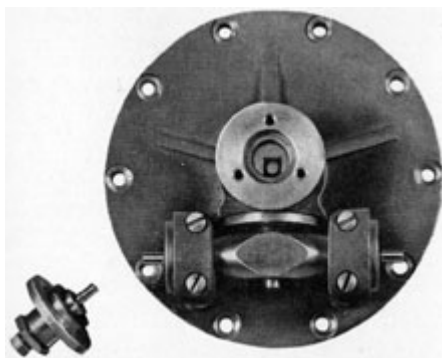

Figure 5-38. Bellows housing cover with housing end cap and stop rod removed, new installation.
**5K15. Disassembly of housing cover.** (See Figure 5-38.) Remove the shoulder screw that secures the shaft seal bellows to the contact lever shaft. Detach the two pillow blocks and bearing assemblies from the housing cover after removing the shoulder screws. (The external contact arm was removed previously.) It may be necessary to tap the end of the contact arm shaft lightly with a soft hammer or wooden block to loosen the bearings and sockets. Remove the contact lever shaft. Detach the bellows seal cap after removing the three seal cap screws. Remove the shaft seal